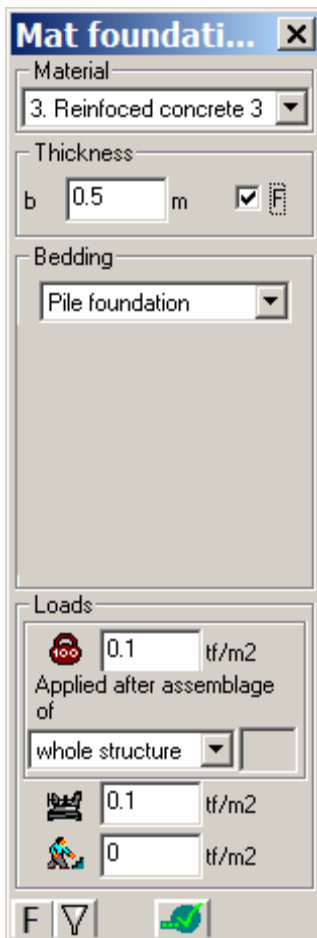

Figure 1.24.1 **Mat foundation No.1_1** dialog box (Element properties)
- ⇒ In the **Mat foundation No.1_1** dialog box (see Fig.1.24.1), do the following: